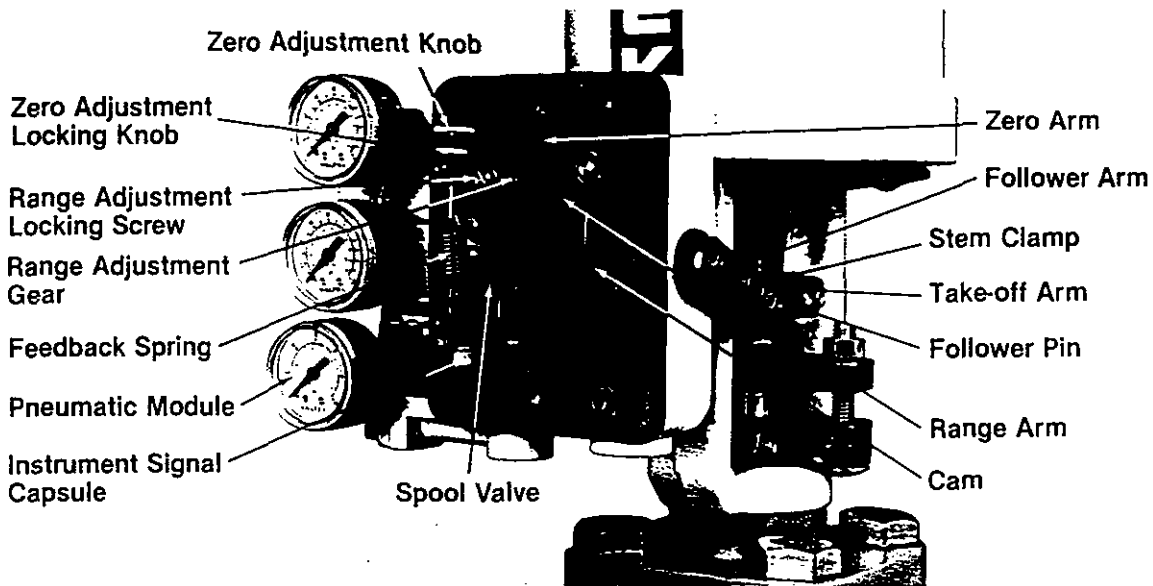

Figure 3: Beta Positioner with Pneumatic Module
1. Place the new stem clamp (if applicable) onto the actuator stem with the boss on the right side as illustrated in Figures 3 and 6.
3. If not welded to the stem clamp, bolt the take-off arm to the stem clamp so that the arm curves upward (toward the cylinder). The holes in the follower arm should line up with the slots in the take-off arm (again refer to Figures 3 or 6).